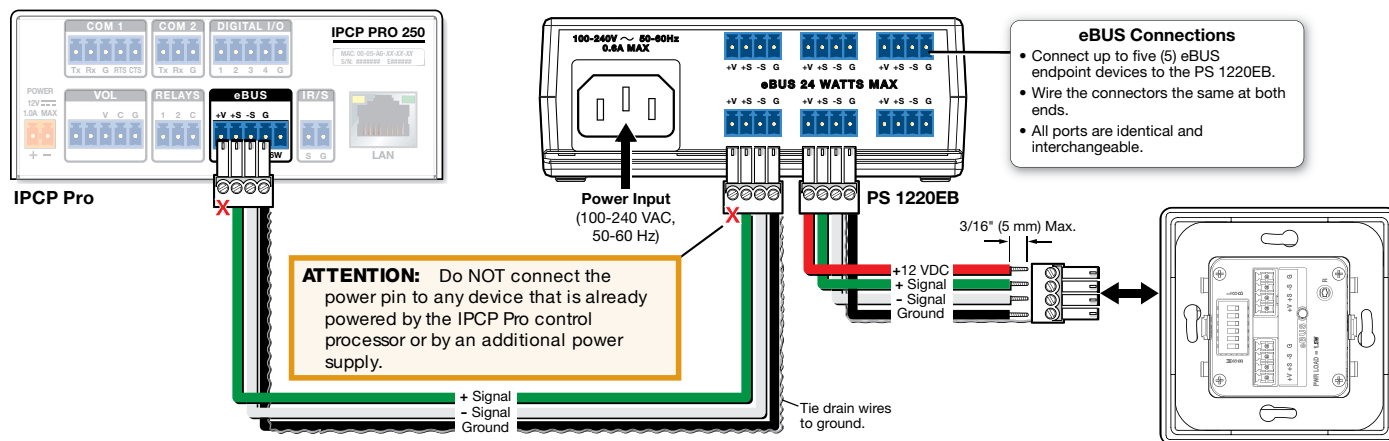

Figure 12. Cabling an eBUS System with an PS 1220EB Power Supply and Distribution Hub
- Power is provided by the IPCP Pro. If additional power is required, use a PS 1220EB power supply and distribution hub, or an Extron PS series desktop power supply. If more than one power source is used in a system, make sure that the devices powered by the first source are isolated from the devices powered by the second source by disconnecting the +V pin appropriately (see figure 12 on the following page).
NOTE: Although the rear panels for the EBP 104 EU and 104 MK are different from the rear panel shown in figures 12 and 13, power and eBUS cables are connected in exactly the same way.